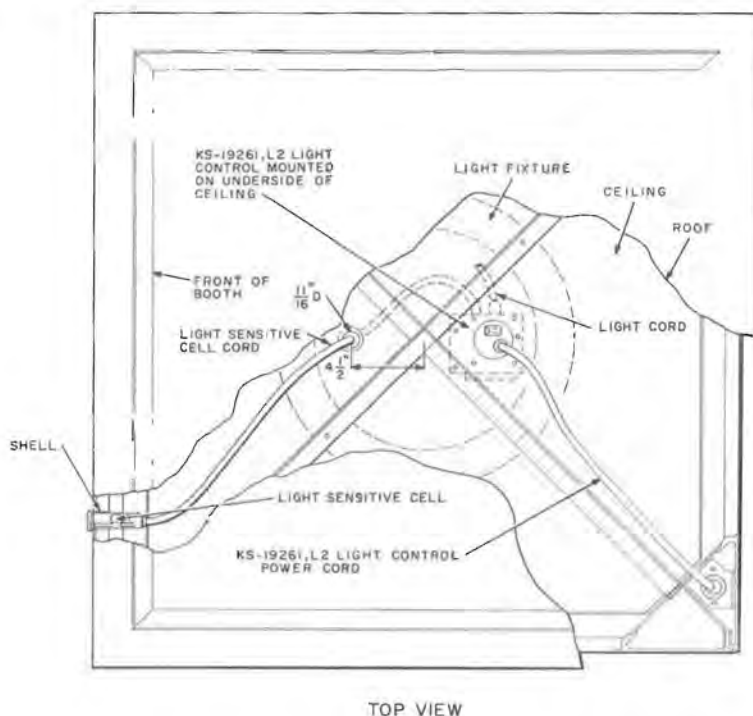

Fig. 13—Ceiling Layout of KS-14611 Booth (Top View)
- (g) Drill an 11/16-inch diameter hole down through ceiling 4-1/2 inches toward front of booth from center of cross braces (Fig. 13).